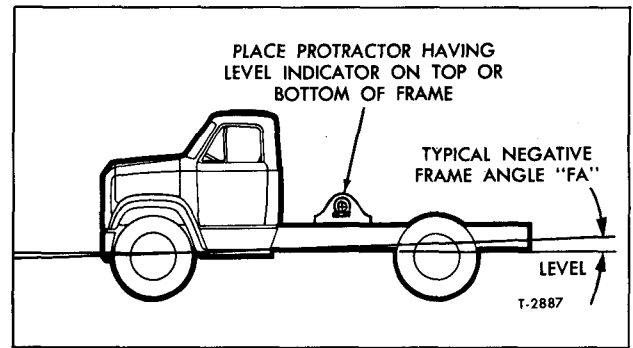

Figure 2—Method of Checking Frame Angle
IMPORTANT: Caster, camber, and toe-in dimensions are for vehicle carrying its design load whereby the frame in most instances would be level. If alignment check is to be made with frame NOT LEVEL the frame angle (fig. 2) must be determined and added to the caster angle to obtain a
2. Using a bubble protractor (fig. 2), measure the frame angle (FA). Frame angle is the degree of tilt in the frame from the level position. Negative frame angle is when the frame is high (above level) in the rear. Positive frame angle is when the frame is low (below level) in the rear.
4. Add the frame angle (FA) found in step 2 to the left wheel caster reading found in step 3 to determine the "corrected caster" for left wheel.